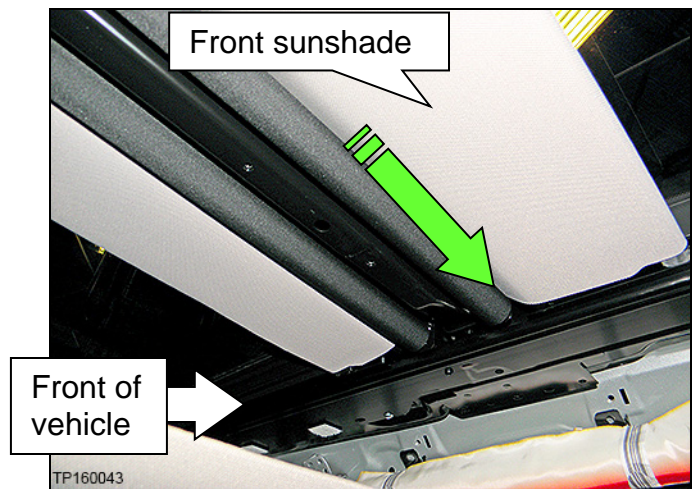

Figure 59
- a. Detach the front sunshade by pulling it toward the left of the vehicle to compress tension spring (Figure 59).